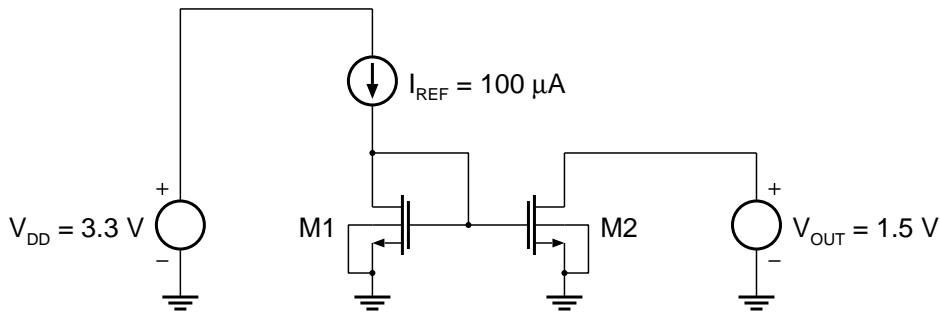
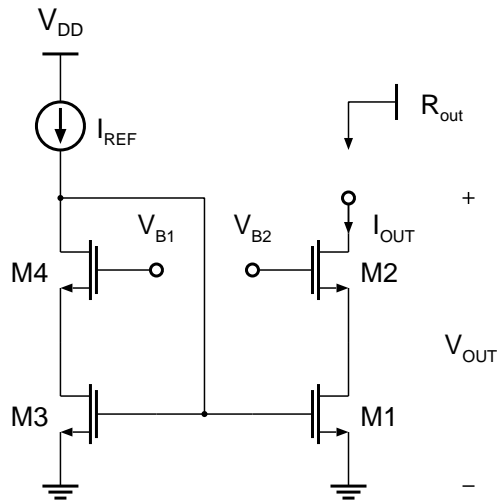

Figure 4: Simulation circuit for the current mirror.
Figure 5: High swing cascode current mirror. (The bulk terminals of all NFETs are connected to the ground potential.)
Two main characteristic parameters of a current mirror are its minimum output voltage $V_{\text{OUT},\text{min}} = V_{\text{dsat}2}$ and its output resistance R_{out} . Determine these two values for the basic current mirror shown in Figure 4.
3. Draw a schematic according to Figure 4. For the transistors use the cell `nmos4` from the library `PRIMLIB` and for the current source use the cell `idc` from the library `analogLib`. Do not forget to place a `gnd` component! Make both transistors $1.75 \mu\text{m}$ wide (the values in the fields `width` and `width stripe` should match) and $0.35 \mu\text{m}$ long ($W/L = 5$). Hint: to mirror the transistor on the vertical axis press the button `Sideways` in the `Add Instance` dialog.
Eq. (2) shows that the drain-source voltages of M1 and M2 should be made equal for I_{OUT} to be a precise copy of I_{REF} . However, V_{ds2} in Figure 4 is defined by the driven circuit. The idea is now to use a cascode in the output branch, i.e. to stack another transistor on top of M2 in order to shield the drain of M2 from variations of the output voltage. The resulting structure is known as a cascode current mirror. However, it can be shown that this cascode current mirror loses one threshold voltage in voltage headroom for V_{out} (see P. Gray et al., 5th Ed., Ch.4, Par.4.2.5, pp.261, for the derivation). Therefore, in practical circuits the high swing cascode current mirror of Figure 5 is used, since this structure does not exhibit the mentioned disadvantage of the normal cascode current mirror.
1. The cascode current mirror was suggested because of its increased output resistance. Draw the small signal equivalent circuit of the output branch of Figure 5 and derive the formula for the output resistance. Do you expect a significant increase in the output resistance based on your formula?
3. Eq. (2) shows that V_{ds1} and V_{ds3} should be equal when channel length modulation is considered. Why does it make sense to set $V_{B1} = V_{B2}$? Set $V_{ds1} = V_{ds3}$ and derive the relationship between $\frac{W_1/L_1}{W_3/L_3}$ and $\frac{W_2/L_2}{W_4/L_4}$ for $V_{B1} = V_{B2}$ and a general ratio of $\frac{I_{OUT}}{I_{REF}}$. Use the MOSFET formulas given in the appendix (i.e., do not include the factor $(1 + \lambda V_{ds})$ for the drain current I_d).
6. You are now in a position to plug your design of the cascode current mirror into the simulator. Create a new cell in the Schematic Composer and draw the circuit schematic of Figure 5. After you have specified all transistor dimensions and voltage sources according to your design, start Analog Environment and perform a DC analysis. When the simulation has finished, annotate the DC node voltages and the DC operating points in the schematic by clicking `Results.Annotate.DC Node Voltages` and `Results.Annotate.DC Operating Points` in the Analog Environment window. The subset of parameters displayed for the components may be changed. Let us add `gds` for the transistors: Choose `Edit.Component Display` in the schematic window, tick the option `Select Label: parameter` and make sure the following options are active below: `library`, `operating point`, and `DC`. Afterwards click on a `nmos4` in the